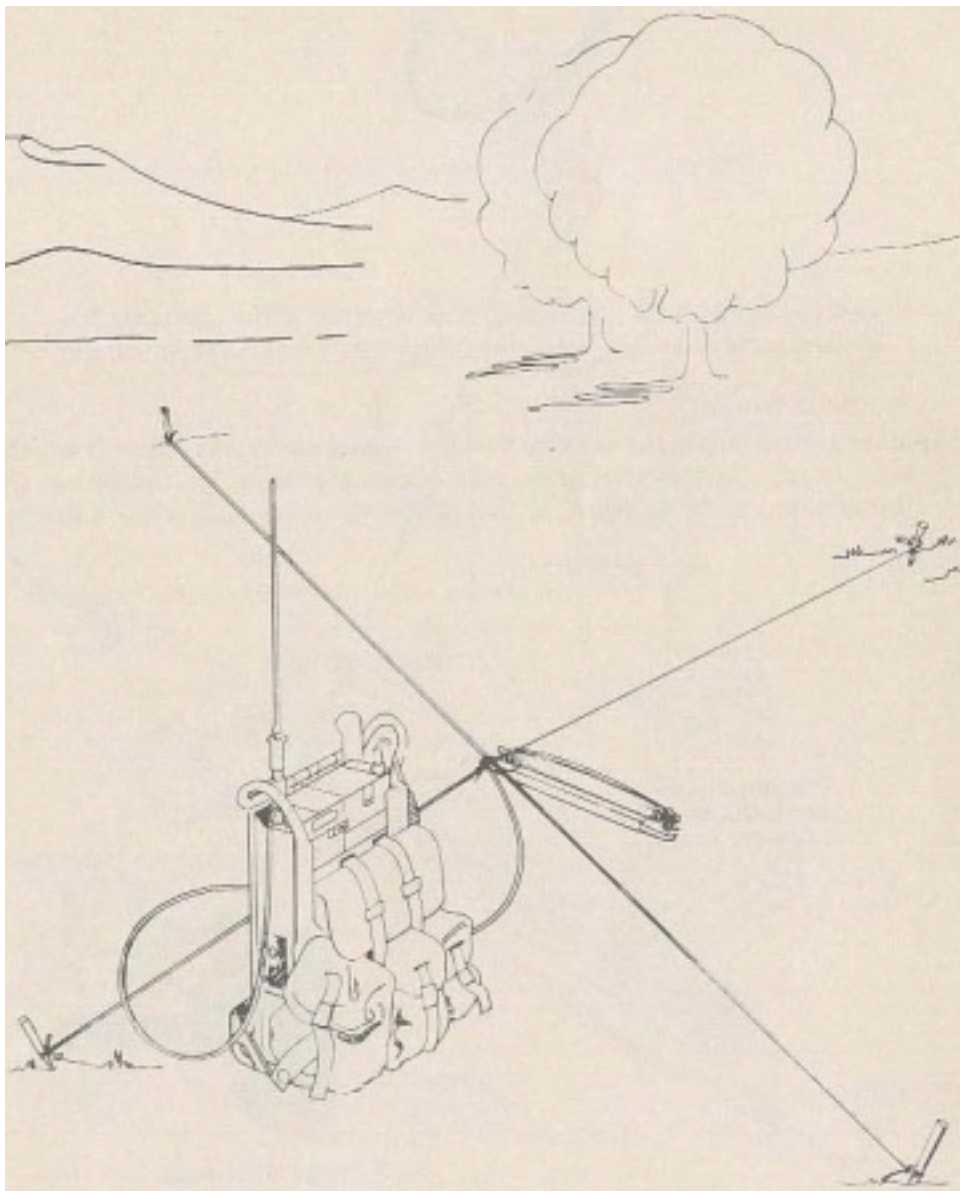

Figure 8. Counterpoise Placement.
- B.** Stretch four wires in four directions and secure looped ends over stakes pounded in the ground. Refer to figure 8.